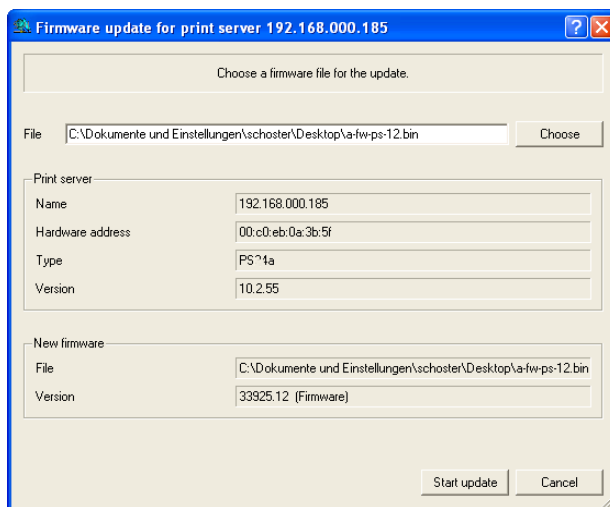

Fig. 53: InterCon-NetTool – Standard Update
3. Select **Actions – Firmware Update – Standard Update** from the menu bar. The update dialog appears; see Fig. 53 ⇨  198.